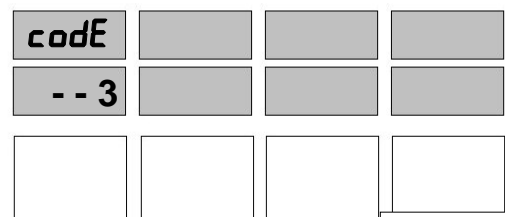

Figure 3.2
3. Press the **ENTER** button. When access is gained, the dashes disappear and the price display appears as in Figure 3.2. If the dashes do not appear, the access code entered did not match the code stored in memory. Press the **CANCEL** button and repeat steps 1, 2, and 3.
- Press the **ENTER** button. If access is gained, the four dashes disappear and the PPV display appears as in Figure 3.2. If the dashes do not move, an error was made entering the access code. Repeat steps 2, 3, and 4.
- Press the **ENTER** button. If access is gained, the four dashes disappear and the main price display appears as in Figure 3.2. If the dashes do not appear, an error was made. Repeat Steps 1 through 4.